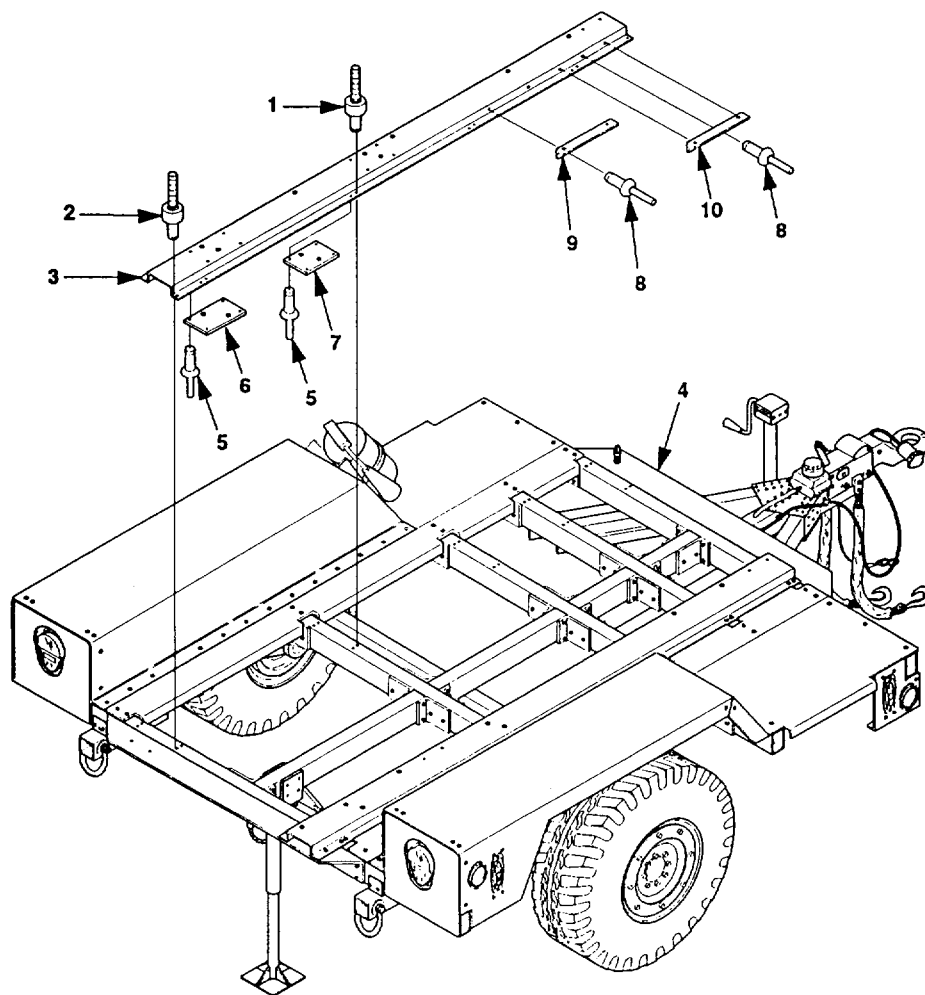

Figure 5-25. PU-797A and AN/MJQ-35A Generator Mounting Rail Replacement.
~~Remove~~ rivets (1 and 2, figure 5-25) and mounting rail (3) from trailer chassis (4).